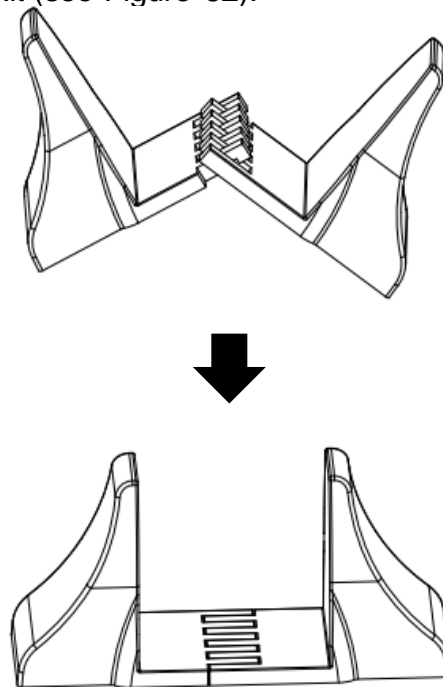

Figure 52: Tower Kit for 2U Units
1. Assemble the tower kit (see Figure 52).